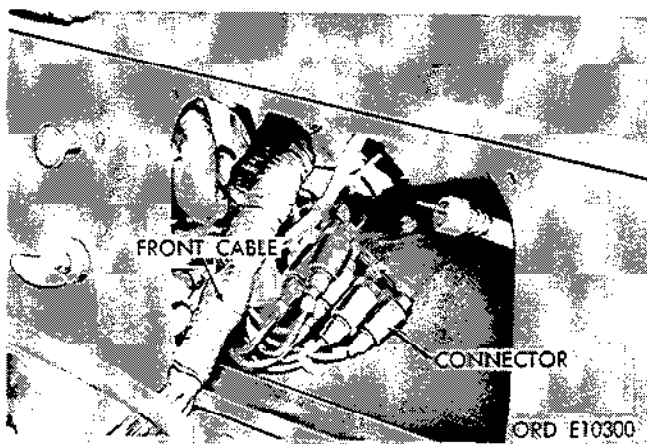

Figure 2-236. Separate front harness assembly and rear harness assembly.
(22) Separate the connectors between front harness assembly and rear harness assembly (fig. 2-236) (cable Nos. 27, 28, 24, 23, 22 and 21).
(20) Disconnect front and rear wiring harness connectors apart (fig. 2-236).